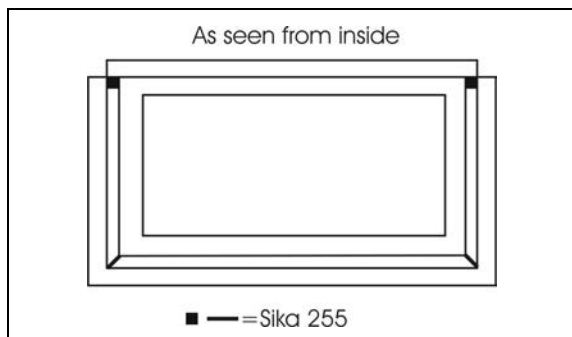

FIGURE 64: SIK A 255 APPLICATION
5. Apply Sika 255 in the upper and lower frame corner as per FIGURE 64.